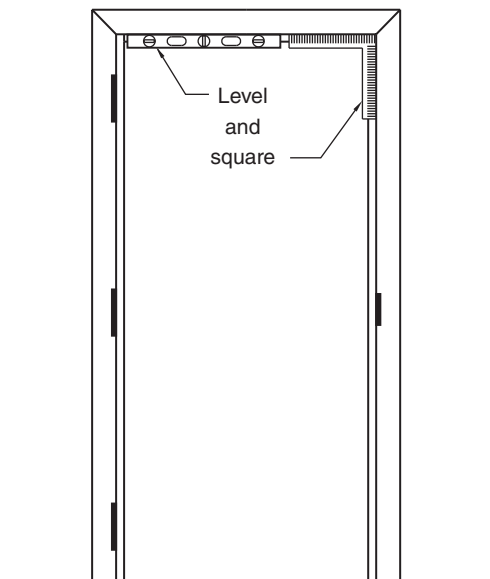

Figure 31 – Level and square frame
11.4 Level and square frame (see Figure 31).